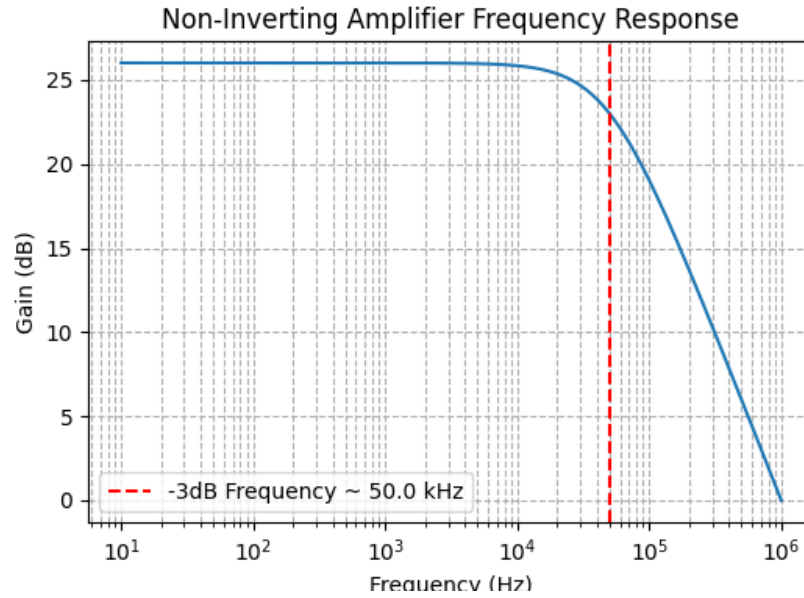

Figure 15: Solution for problem 5. See script `set2_prob5.py` for solution details.
2. Solution plot is shown in Fig. 15.